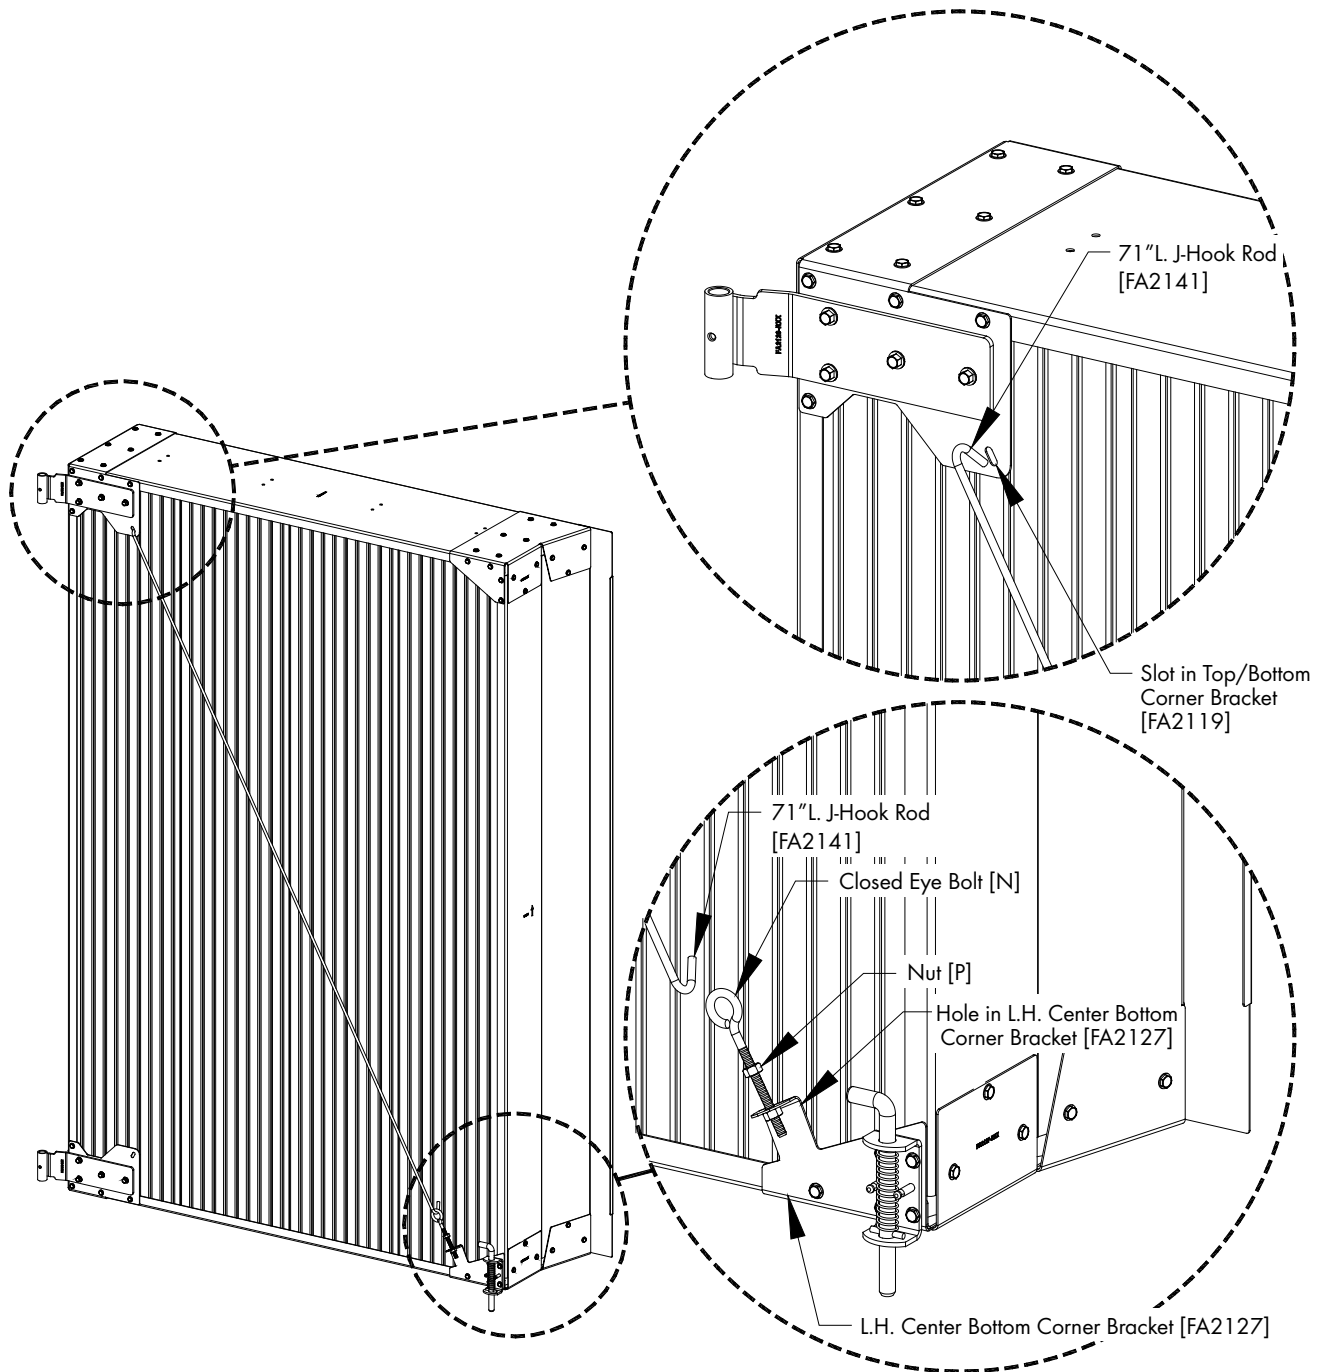

Figure 13
Thread (1) Hex Nut [P] onto Closed Eye Bolt [N] most of the way up the threads, then insert the threaded end of the Eye Bolt through the hole in the Center Bottom Corner Bracket and thread 2nd Hex Nut [P] on Eye Bolt 1". Hook the end of the 71"L. J-Hook Rod through the slot in Top Corner Bracket and hook the other end of the Rod on the Closed Eye Bolt and adjust the bottom Hex Nut until the Rod is taut. Repeat for the opposite side of the door. *See Figure 13.* Adjust both lower Hex Nuts so door is square, Then thread the upper nut down to the Bottom Corner Bracket.